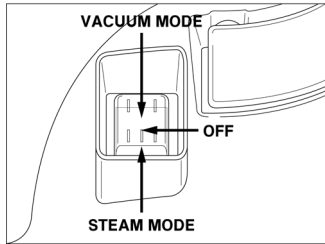

FIGURE 7
2. Set Main Control Switch to desired mode (vacuum mode or steam mode) (FIGURE 7).